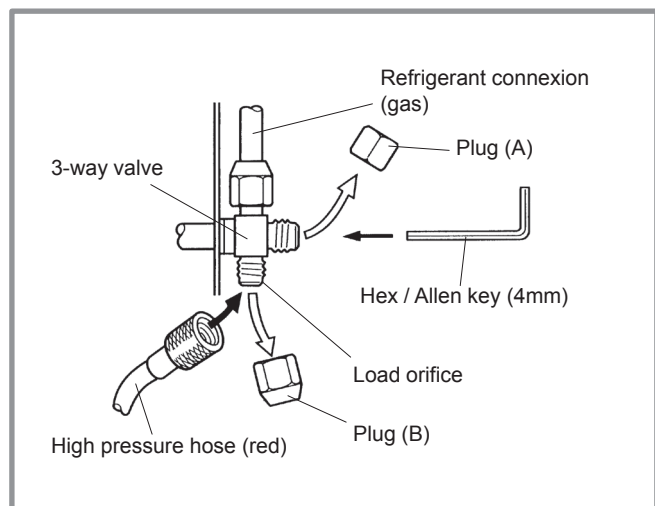

figure 21 - Connection of the hose on the "Gaz" valve
Plug (A) and (B) : see figure 21, page 21.